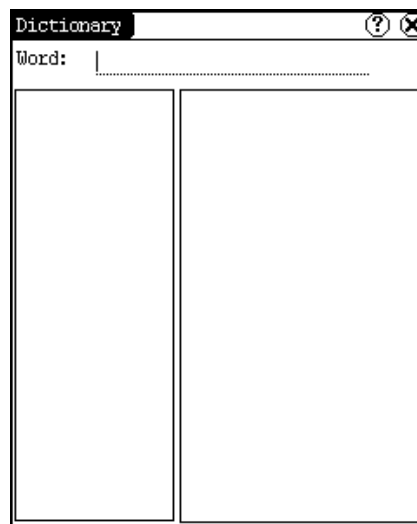

Figure 4-09
- 1) In the pop-up menu of 'Tools', select 'Dictionary' to open the Dictionary interface. (See Figure 4-09)